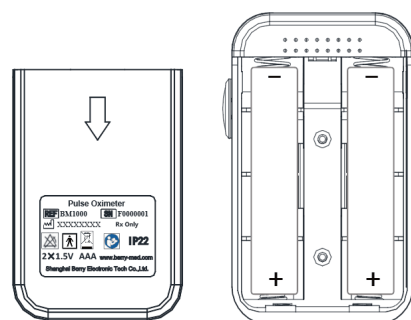

Figure 3
2. Install batteries into the slots per the "+" and "-" symbols as shown in **Figure 3**. Cover the lid onto the cabinet and push it upwards to make it close well.